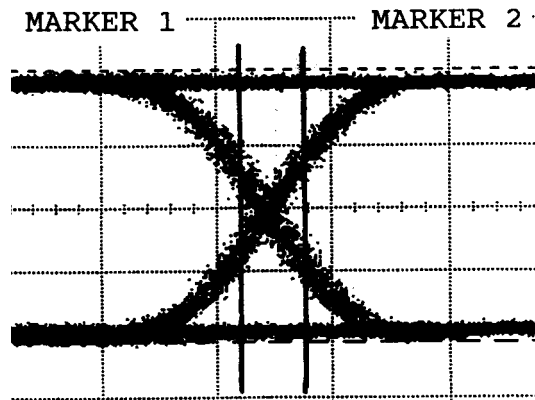

Figure 11-3
5. Select VOLTS Histogram and move the WINDOW MARKERS 1 and 2 as shown in Figure 11-3.